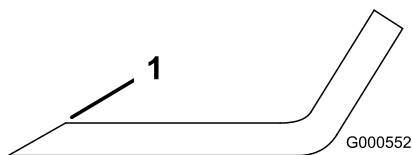

Figure 102
- Use a file to sharpen the cutting edge at both ends of the blade (Figure 102).
Note: If the blade is not balanced, file some metal off the end of the sail area only (Figure 102).